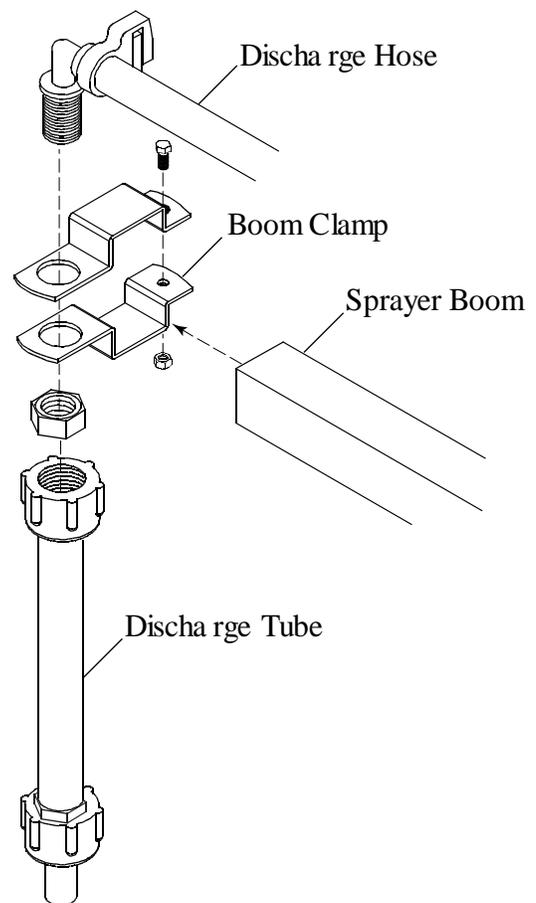

Figure 2: Discharge Tube Mounting
2. **If you are mounting the tubes on a sprayer**, a nozzle body clamp can be used. Simply mount the clamp on the sprayer's boom and insert the threaded barb elbow through the hole where the nozzle body would normally go. (See Figure 2) See the Accessories section on page 12 for ordering boom clamps.